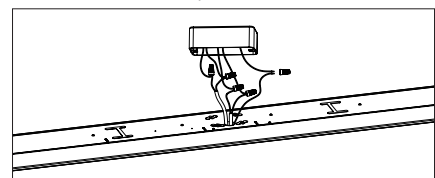

Figure 7
- b. Connect the fixture AC wires to the corresponding supply wires (BLACK to BLACK, WHITE to WHITE, and GREEN to GREEN) in the junction box and secure using wire nuts (Part DD-P4). (Figure 7,8)
- c. Connect the dimming wires to the corresponding wires (PURPLE to PURPLE, PINK to PINK) in the junction box and secure using wire nuts (Part DD-P1). (Figure 7,8)